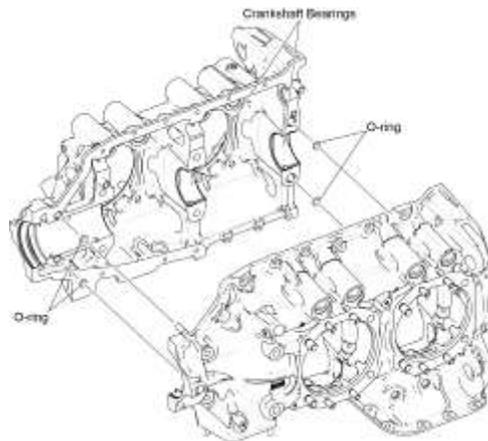

Figure 66
C. Install the eight new O-rings (Figure 66).